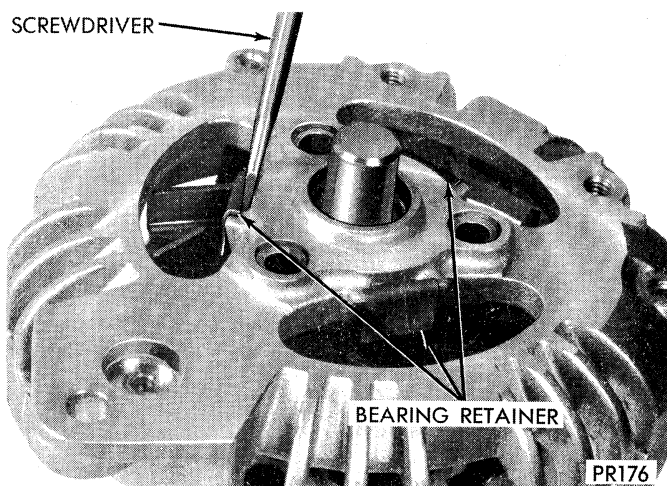
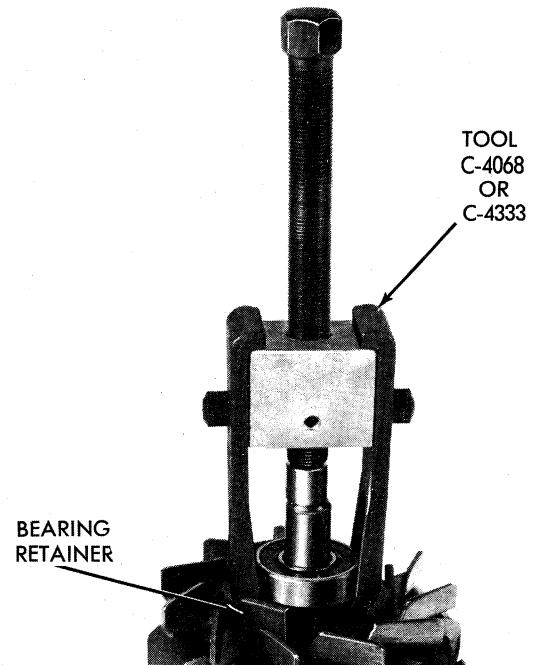

Fig. 23—Disengaging Bearing Retainer From End Shield
Fig. 24—Removing Bearing From Rotor Shaft
(2) Pry drive end bearing retainer from end shield with a screwdriver (Fig. 23).
(3) Support end shield and tap rotor shaft with a plastic hammer to separate rotor from end shield.
(4) The drive end ball bearing is an interference fit with the rotor shaft. Remove bearing with Puller Tool C-4068, (Fig. 24).